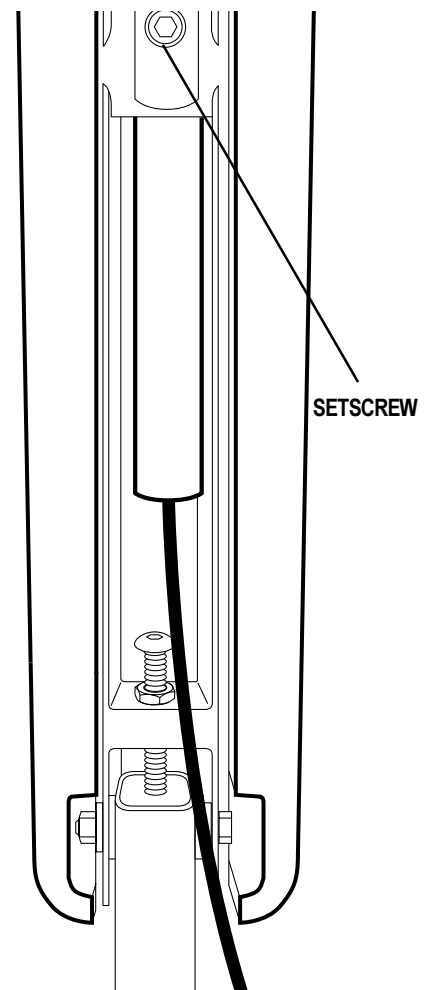

Figure 14. Underside of Armrest
3. Use a hex key to loosen the setscrew. See figure 14.